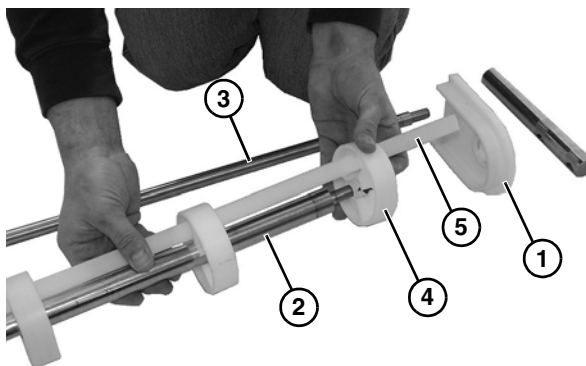

Figure 61
- Remove pinch guard (**Figure 61, item 1**) from idler shaft (**Figure 61, item 2**) and pinch guard shaft (**Figure 61, item 3**).
- Slide the pucks (**Figure 61, item 4**) and alignment bar (**Figure 61, item 5**) off the idler shaft (**Figure 61, item 2**).